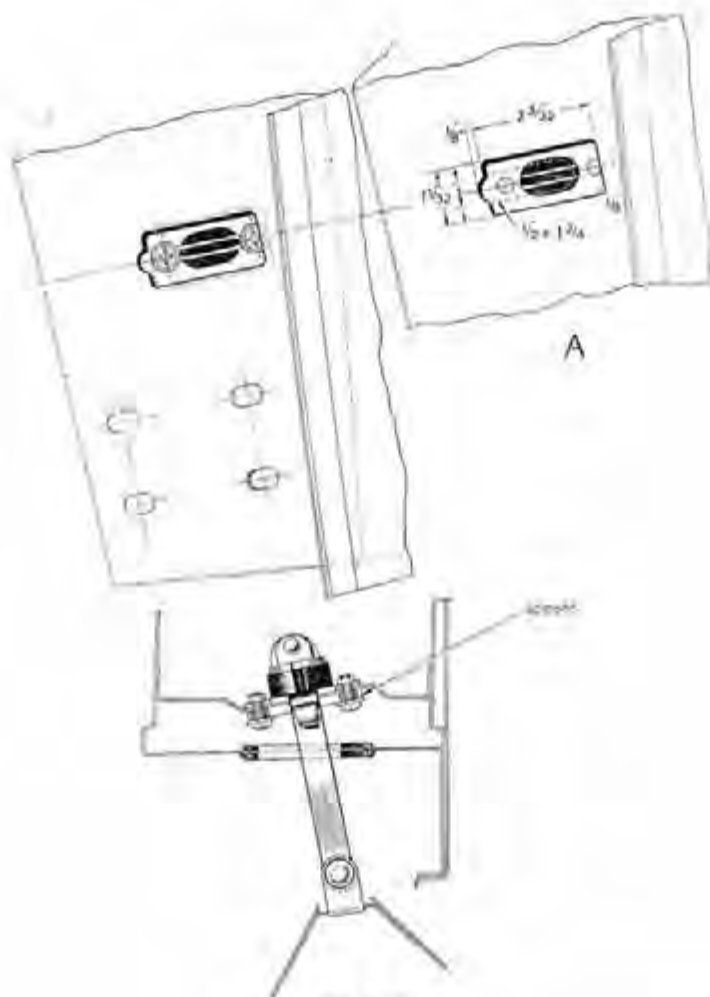

Fig. R.12
5. Fit the new check link guide clip, Part No. 400565 to the outside of the support bracket with the stop plate on the inside and secure with distance-pieces and screws as shown in Fig. R.12.